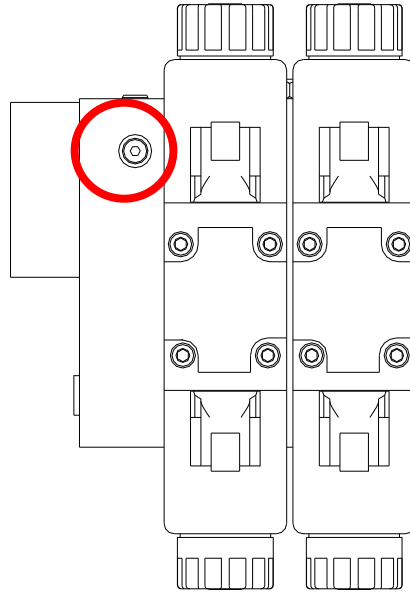

Figure 24: Load Sense Bleed Orifice Location on Top of Block
5. Remove the plug from the Sense Line Bleed port. Location is shown in **Figure 24**. Gently tap the plug with a hammer to loosen it before attempting to remove it. Remove the Sense Line Bleed Orifice and discard.